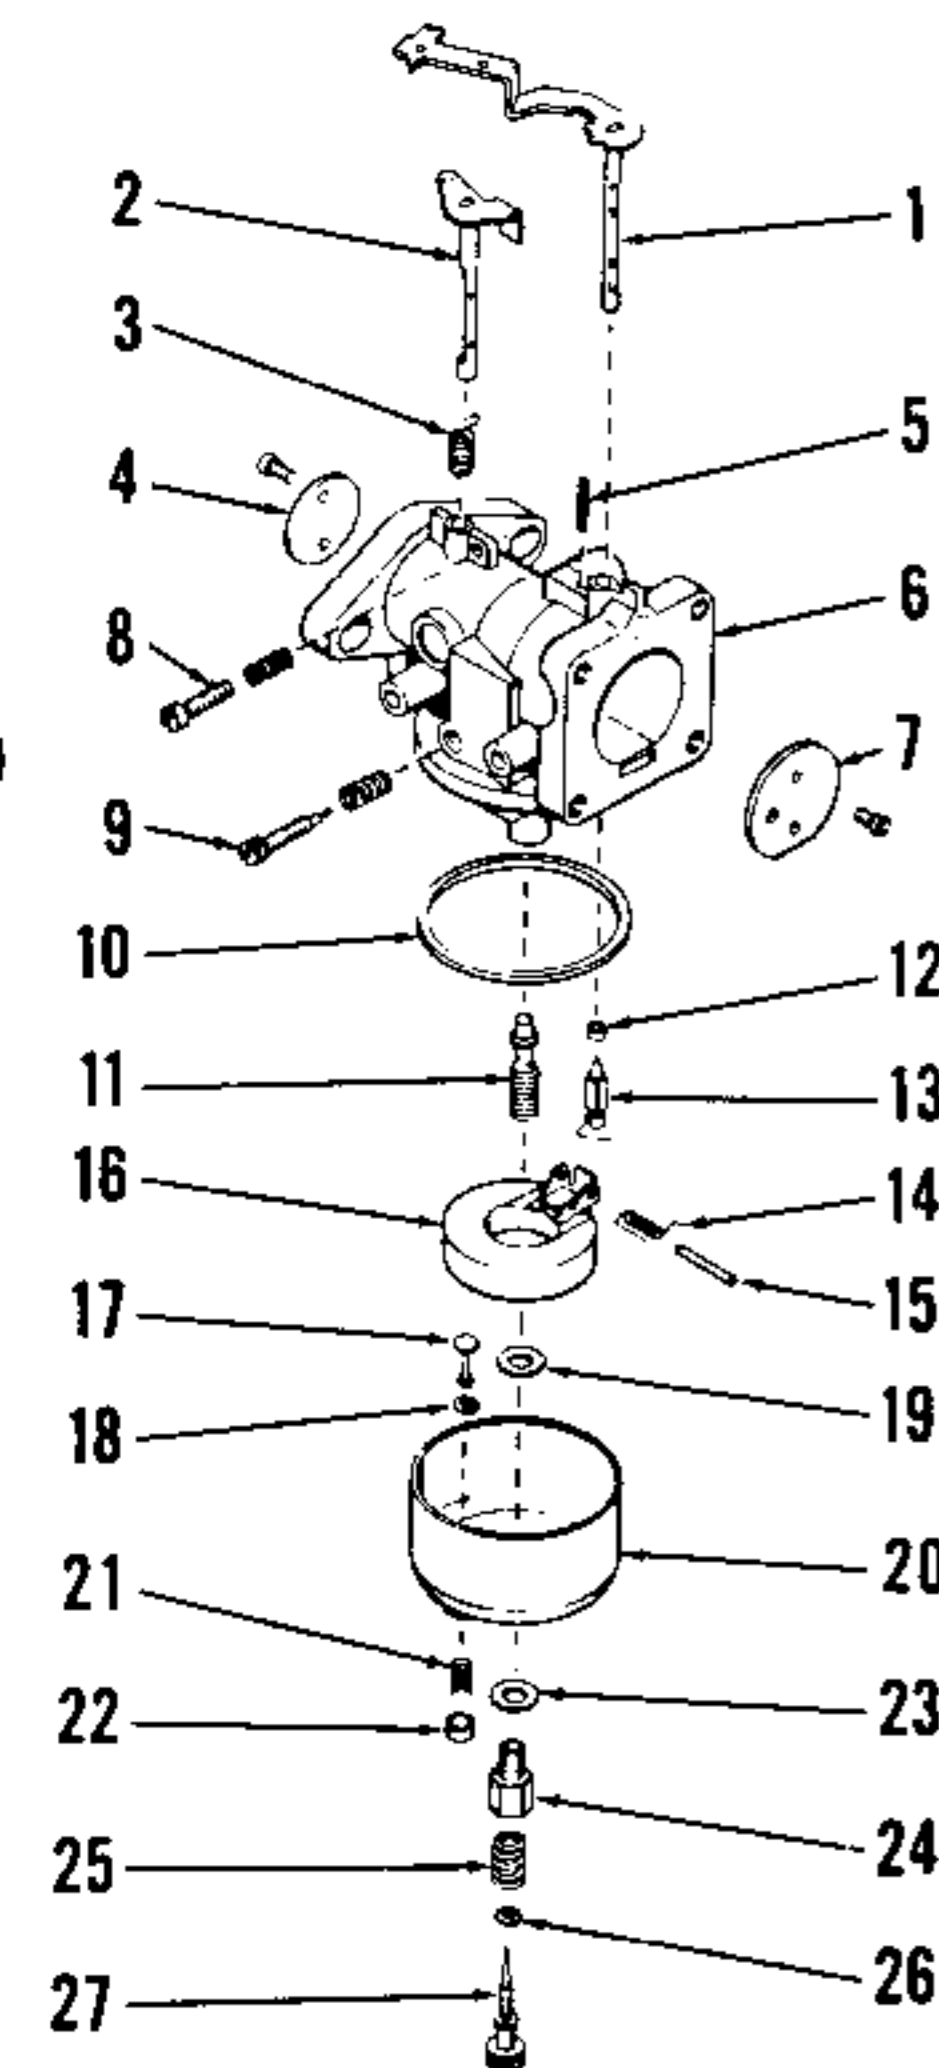

Fig. TC2—Exploded view of carburetor.
NOTE: Brass or ball plugs should not be removed from carburetor body. Do not remove main nozzle tube (11—Fig. TC2). Tube is installed to a predetermined depth, and altering its position in carburetor body will affect metering characteristics of the carburetor.
There are two different types of bowl nuts (24—Fig. TC2) that are used on carburetors equipped with adjustable main jets. One type has one fuel inlet port at bottom of the nut, and the other type has two fuel inlet ports at bottom of the nut (Fig. TC3). The difference between the nuts has to do with calibration changes of the carburetor, depending on engine application. DO NOT interchange bowl nuts. Fuel inlet port(s) and idle fuel transfer port, located in annular groove at top of nut, must be open and free of any debris to ensure proper fuel flow to high and low speed circuits.
Fuel inlet needle (13—Fig. TC2) and seat (12) are renewable. If needle tip or seat is worn or deformed, new needle and seat should be installed. Make cer-